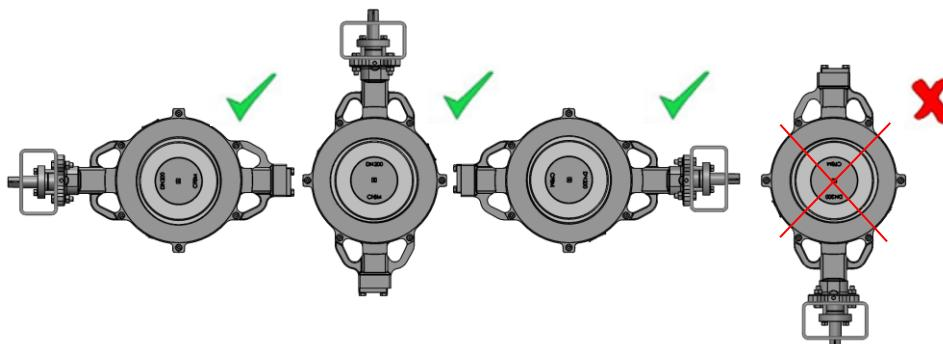

Fig. 6: Recommended positions of the valves when installed in the pipe
- In general, it is recommended to install the valve in a vertical position within the piping system. However, there are applications where the valve is installed in a horizontal position (Tab. 5). Recommended positions , see Fig. 6.